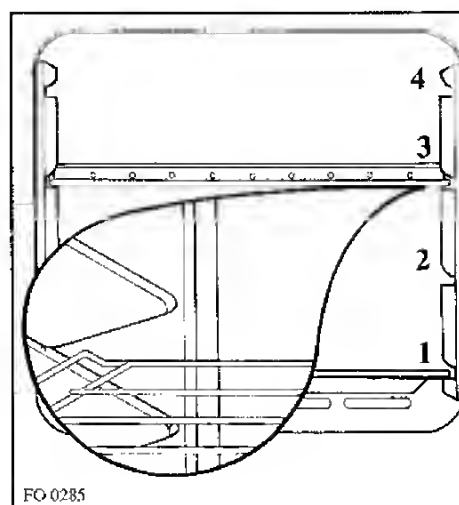

Fig. 7
**IMPORTANT:** The anti-tip oven shelf must be positioned as shown in Fig. 7.